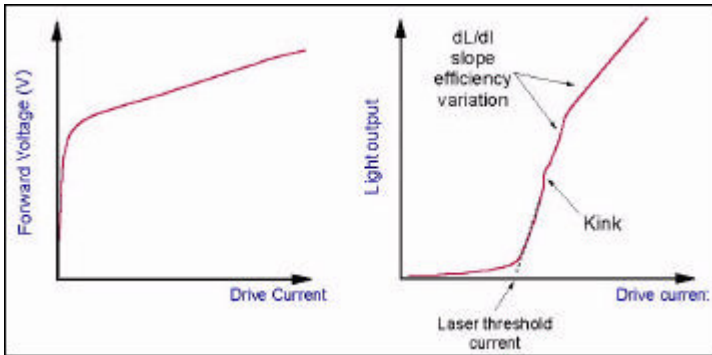

Figure 3-2 Laser VI and LI Characteristics
Typical voltage-current (VI) and light-current (LI) characteristics are shown in Figure 3-2. Optical output power can be measured directly using an optical fiber aligned precisely with the laser diode output facet. Additionally all laser diode modules also incorporate a Back-Facet Monitor (BFM) photodiode, which can also be used to monitor optical power levels.